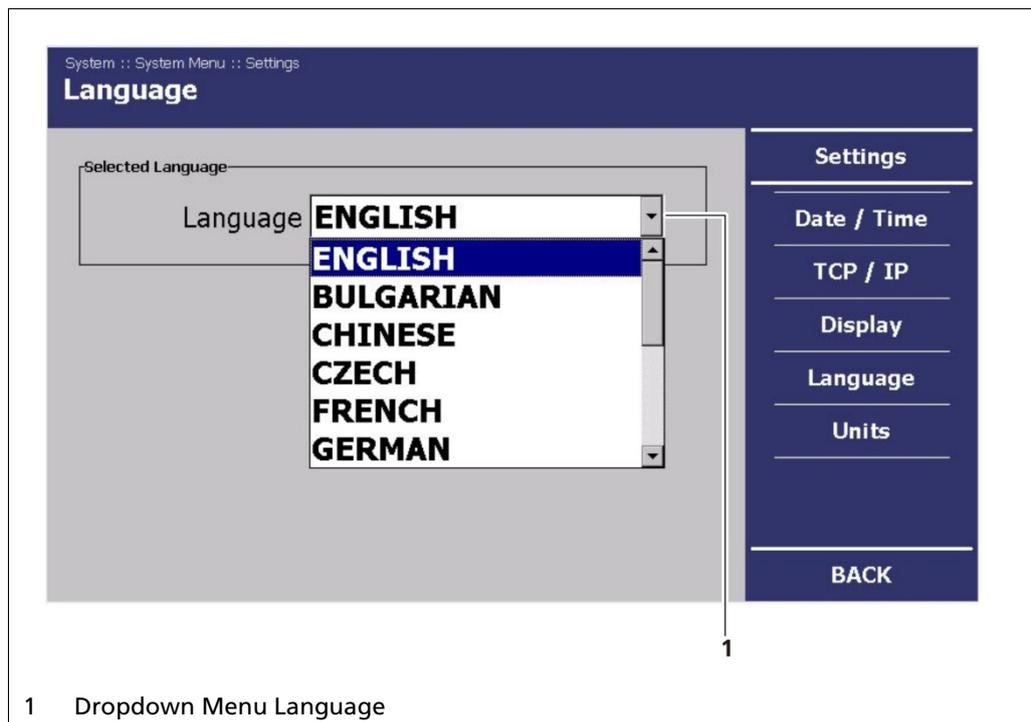

Fig. 31 System Menu. Settings - Language
2. Click on the drop-down menu "Language" (Fig. 31, Item 1), to select the desired language.